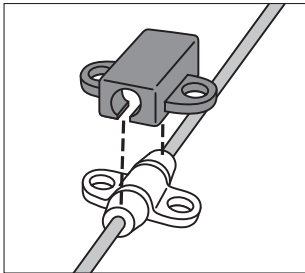

Figure 2
- Snap rigid fastener onto catheter clamp (refer to Figure 2).